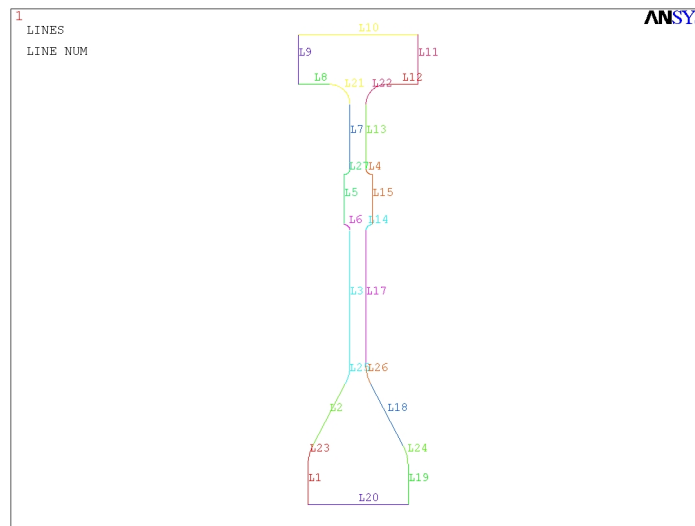

Fig. 6.2. Disk contour
7) Create fillet radius of 0,003 between the following lines L6 and L4, L13 and L17. In Fig. 6.2. shows the result of all the operations performed;